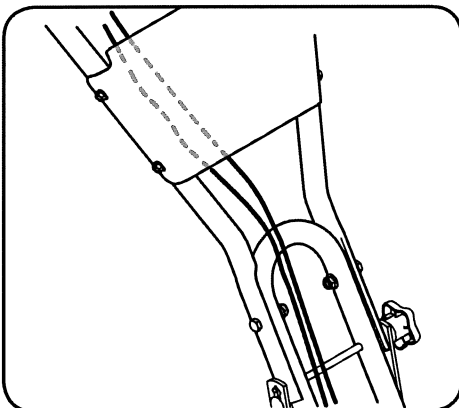

Figure 3-6
1. Carefully unwrap the cable(s) from the shipping position. To attach the clutch cable(s), feed the cable(s) up the front of the lower right handle and behind the handle panel. See Figure 3-6.